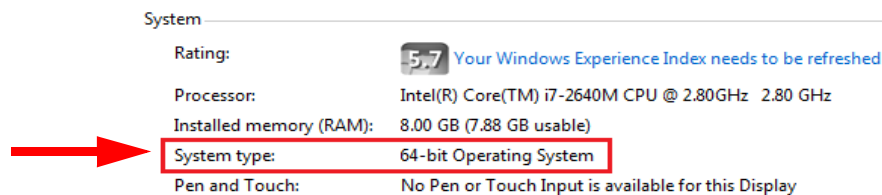

Fig. 6-7 Determine the type of operating system of connected PC
- Determine if your Operating System (OS) is *32-bit* or *64-bit*. Right click **Computer** > **Properties** (Fig. 6-7).